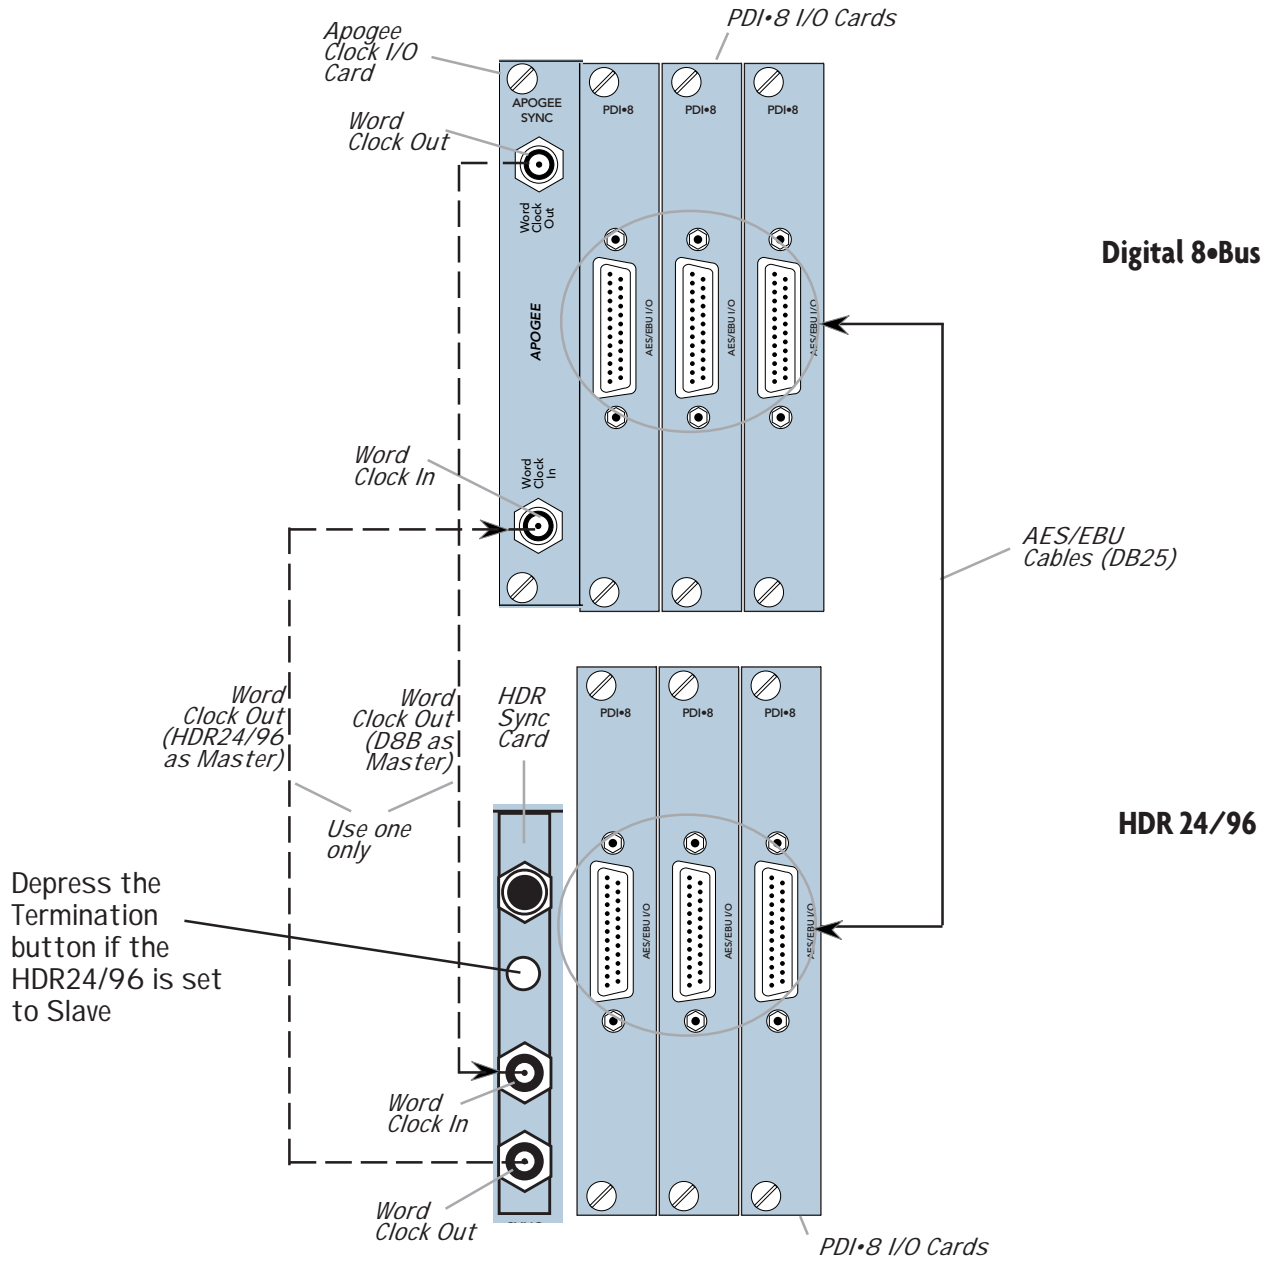

Figure 4
**Note:** Determining which unit in *Figure 4* provides master clock depends on your application. For information on advanced applications, see the Applications Manual.